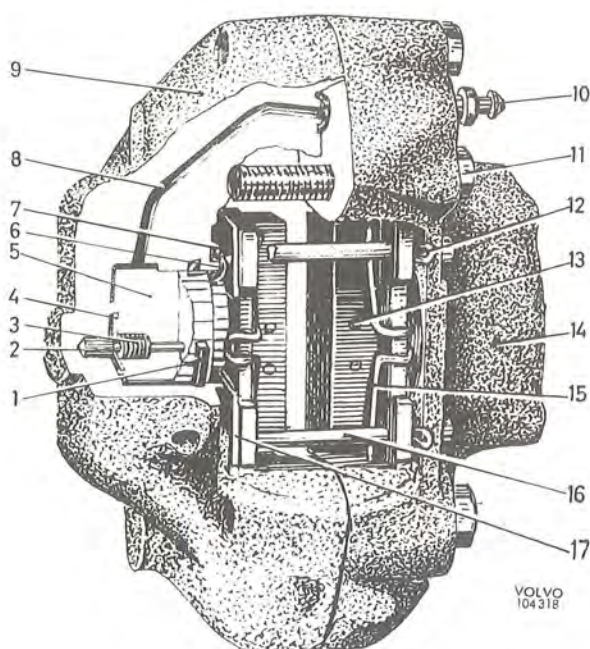

Fig. 5-10. Rear brake caliper
The rear wheel brake caliper is mounted to the rear axle casing with the help of a retainer. It houses the wheel unit cylinders and brake pads. It consists of a housing divided in two halves (9 and 14, Fig. 5-10) bolted together and located on either side of the brake disc. Each half contains a piston and a cylinder linked by means of a channel in the housing.
(due to the axial play of the drive shafts when driving round bends or on rough ground). The A.S.B. device prevents a reduction in the pedal travel (that is, the distance from the pedal position at full brake application to the floor plate). The A.S.B. device consists of the following (see Fig. 5-10): A spring (3), a washer (4) which holds the spring securely on the piston, also
3. Remove the hairpin-shaped retaining clips for the guide pins, see Fig. 5-10. Pull out one of the retaining pins while keeping the damping springs in position. Remove the springs and then the other retaining pin. Pull out the pads and the spacers, see Fig. 5-18.